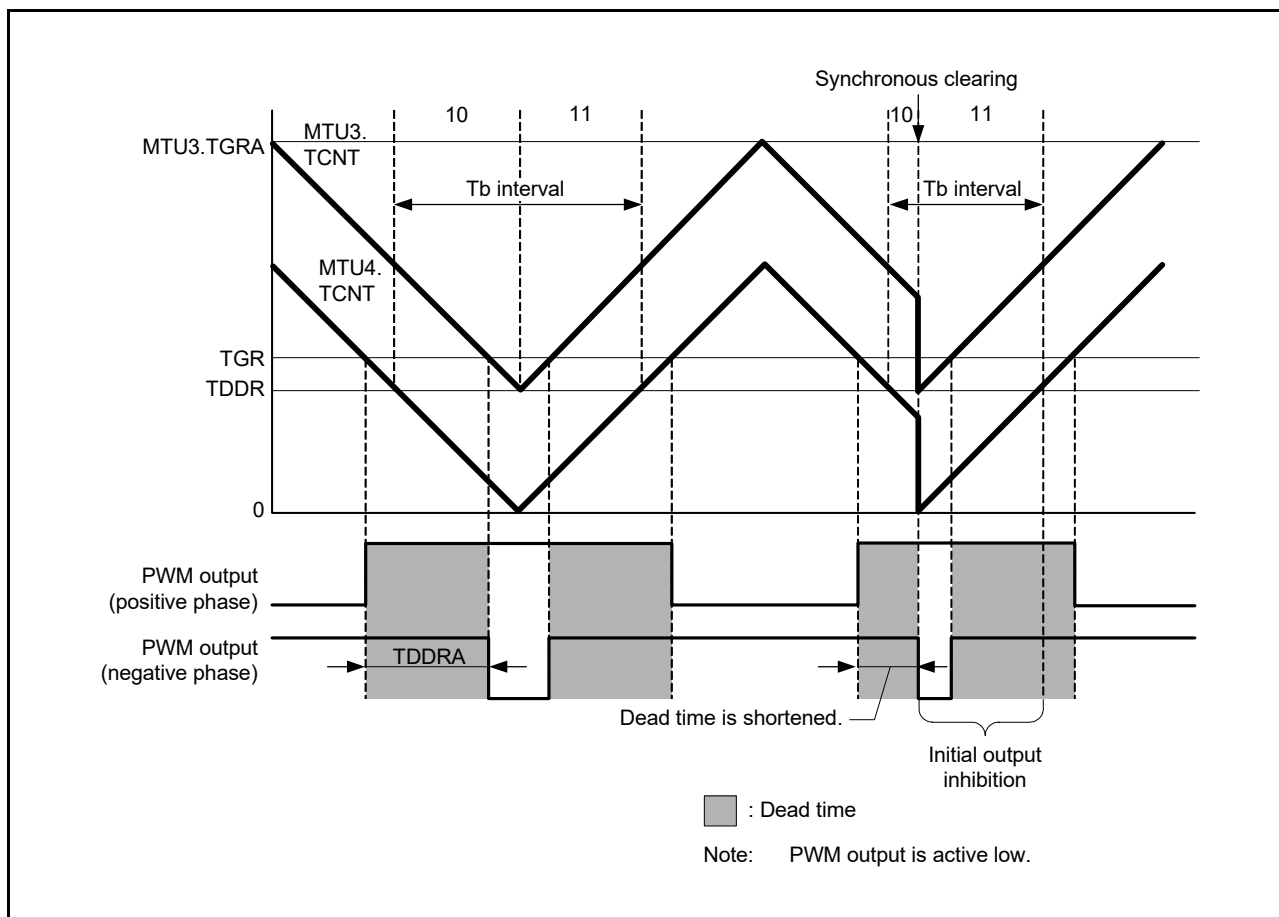

Figure 19.138 Example of Synchronous Clearing (When Condition 1 Applies)
Condition 1: In portion (10) of the initial output inhibition period in Figure 19.138, synchronous clearing occurs within the dead-time period for PWM output.